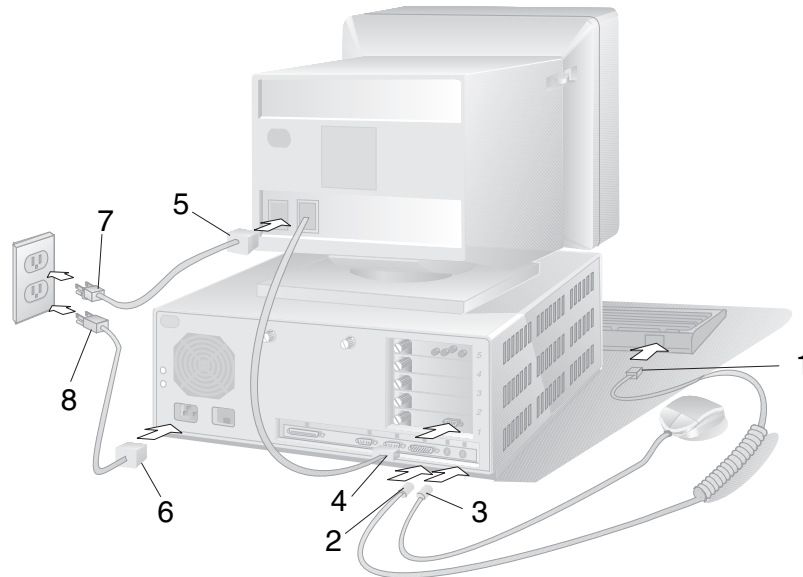

Figure 27. Cable Locations
**Connecting the SP Type 9577** (see Figure 27 on page 24 and Figure 28 on page 24).